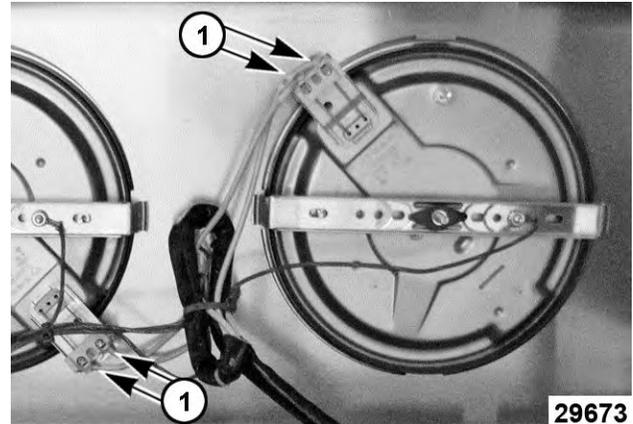

Fig. 16
2. Remove electrical connections noting their locations (1, Fig. 16).